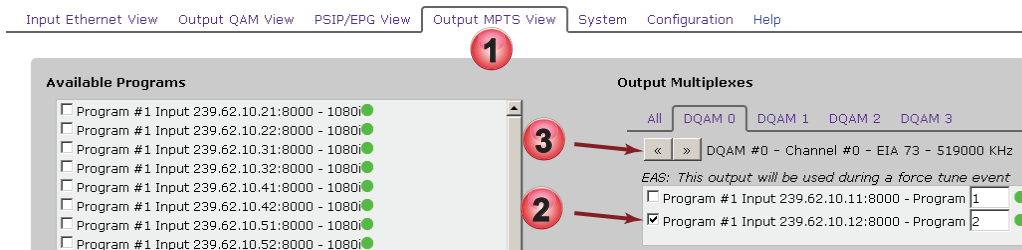

Figure 5-8: Select Programs to Remove From MUX
1. Click the **Output MPTS View** tab (or **Output View** tab for Simulcrypt) if it is not already selected, Figure 5-8.